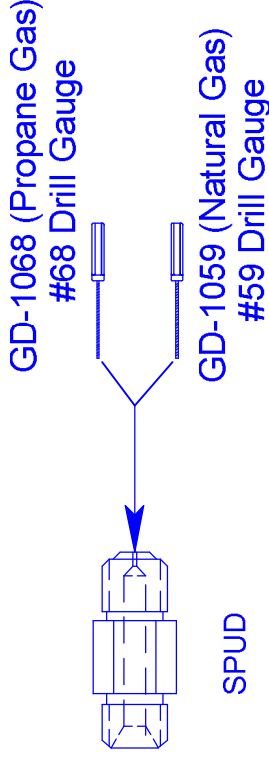

Fig. 5
3. To clean the spud (Fig. 5) use the drill gauge by twisting it a clockwise manner. **Note:** Make sure you are using the proper size drill gauge.